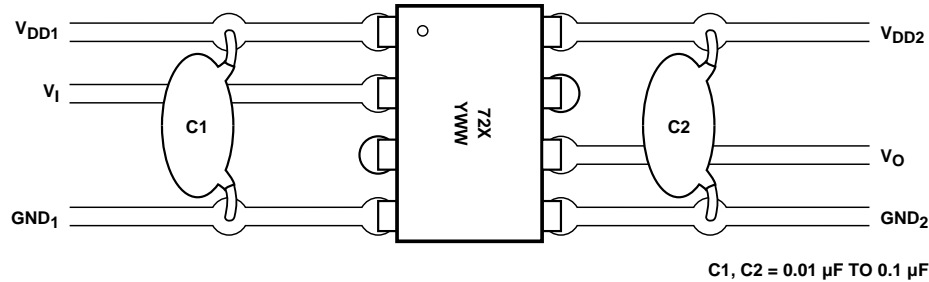

Figure 11. Recommended Printed Circuit Board Layout.
0.1  $\mu\text{F}$ . For each capacitor, the total lead length between both ends of the capacitor and the power-supply pins should not exceed 20 mm. Figure 11 illustrates the recommended printed circuit board layout for the HCPL-772X/072X.